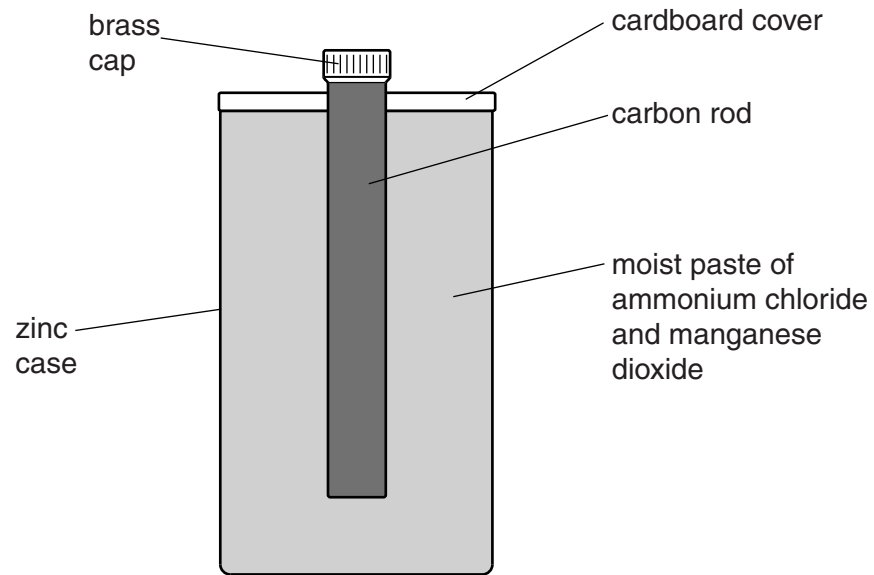

Fig. 1.2
- (c) A diagram of a dry cell is shown in Fig. 1.2.